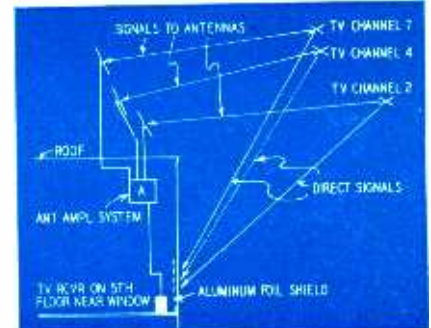

Fig. 3—Direct signals to the receiver may arrive before signals from the antenna and cause leading ghosts if the receiver's shielding is not good enough.
**Solution 2**—The TV receivers in the store receive their TV signals from an RCA Antenaplex system which provides high-quality TV signals on all six New York channels (Fig. 3). A well-shielded TV receiver connected to television outlets installed near the windows facing the transmitters indicated clean pictures. A TV receiver with insufficient shielding connected to these outlets had leading ghosts on channels 2, 4, and 7. Shielding the receiver front end eliminated the leading ghosts. However it was impractical to shield the receivers on the floor from a sales standpoint, as these receivers are subsequently sold.